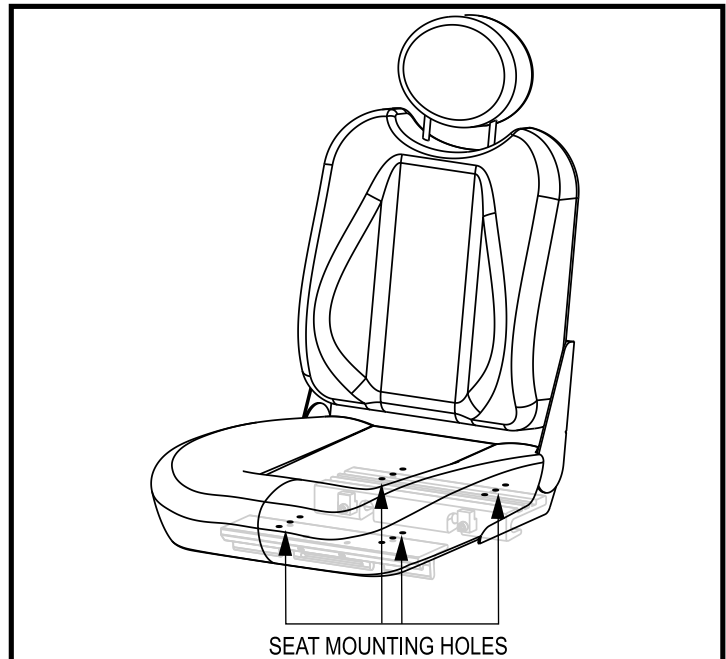

Figure 14. Seat Mounting Holes
5. Reposition the extrusions on a different set of mounting holes. You must move both extrusions the same number of holes either forward or backward. See figure 14.